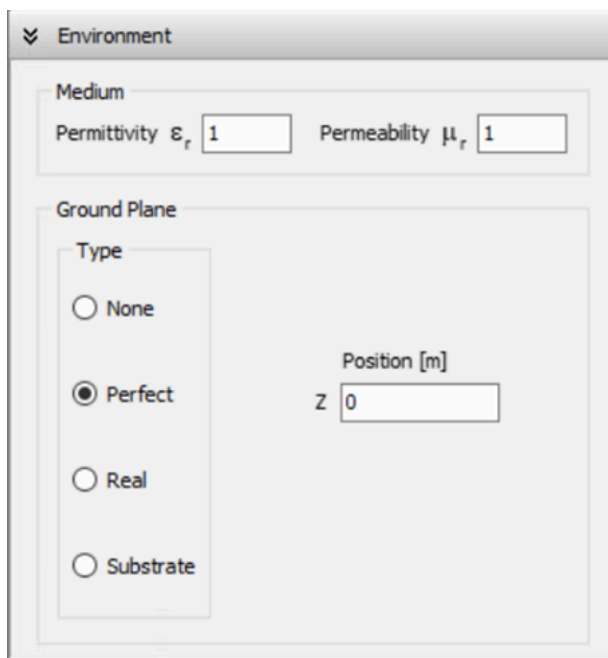

Fig. 1: Perfect option in the Ground plane box of the Environment panel.
2. Select the **Perfect** option in the Ground Plane box, Fig. 1.